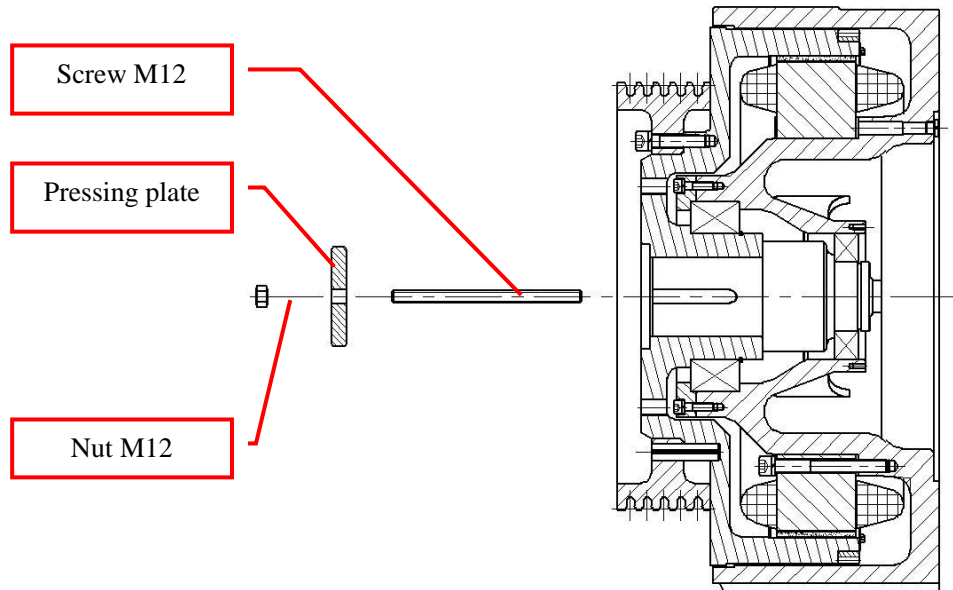

Figure 54: Remove pressing plate
- Remove the nut M12, pressing plate and screw M12 with open-ended wrench (18mm). See Figure 54.